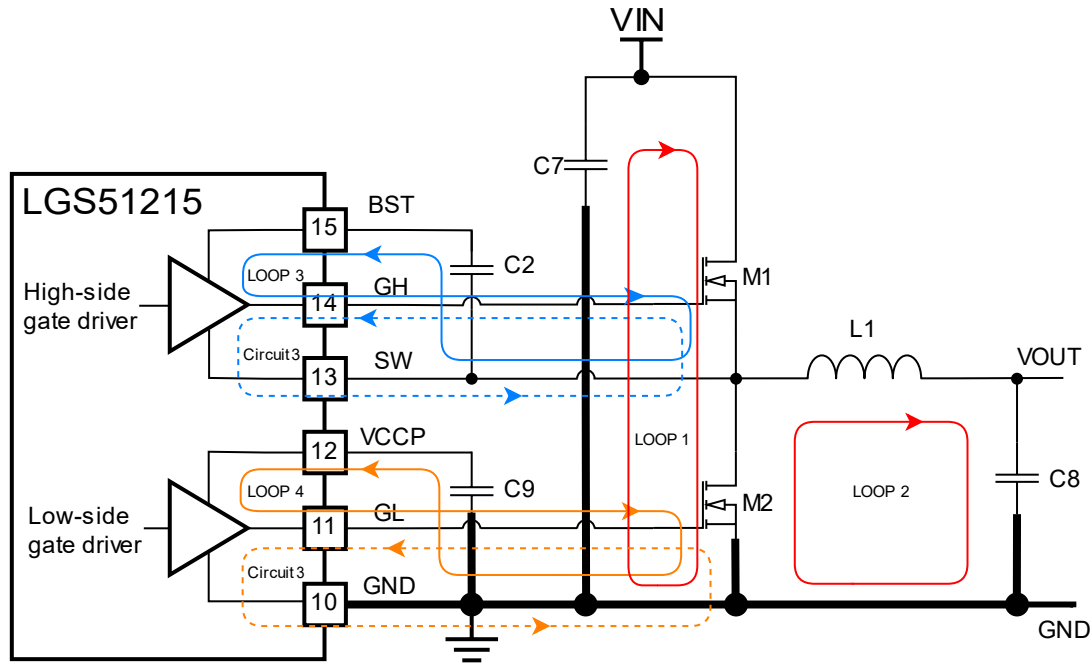

Figure 13.1 Power circuit
- Loop 3 is the driving circuit of the high-side MOSFET. When the high-side MOSFET is on, the high current flows from the bootstrap capacitor of the BST pin (C2 in Figure 13.1) through the gate drive of the high-side MOSFET, and returns to the negative electrode of capacitor C2 through the SW node. On the contrary, when the high-side MOSFET is closed in loop 3 (the dotted line loop in Figure 13.1 is the same as loop 3), the high current flows from the gate of the high-side MOSFET through SW to return to the source of the high-side MOSFET. Loop 4 is the low side MOSFET drive loop. When the low side MOSFET is on, the large current flows from the capacitor (C9 in Figure 13.1) of VCCP pin to the ground through the gate drive of the low side MOSFET and returns to the negative pole of capacitor C9 via GND. On the contrary, when the low side MOSFET is closed in loop 4 (the dotted line loop with the same color as loop 4 in Figure 13.1), the large current flows from the gate of the low side MOSFET through GND back to the source of the low side MOSFET.